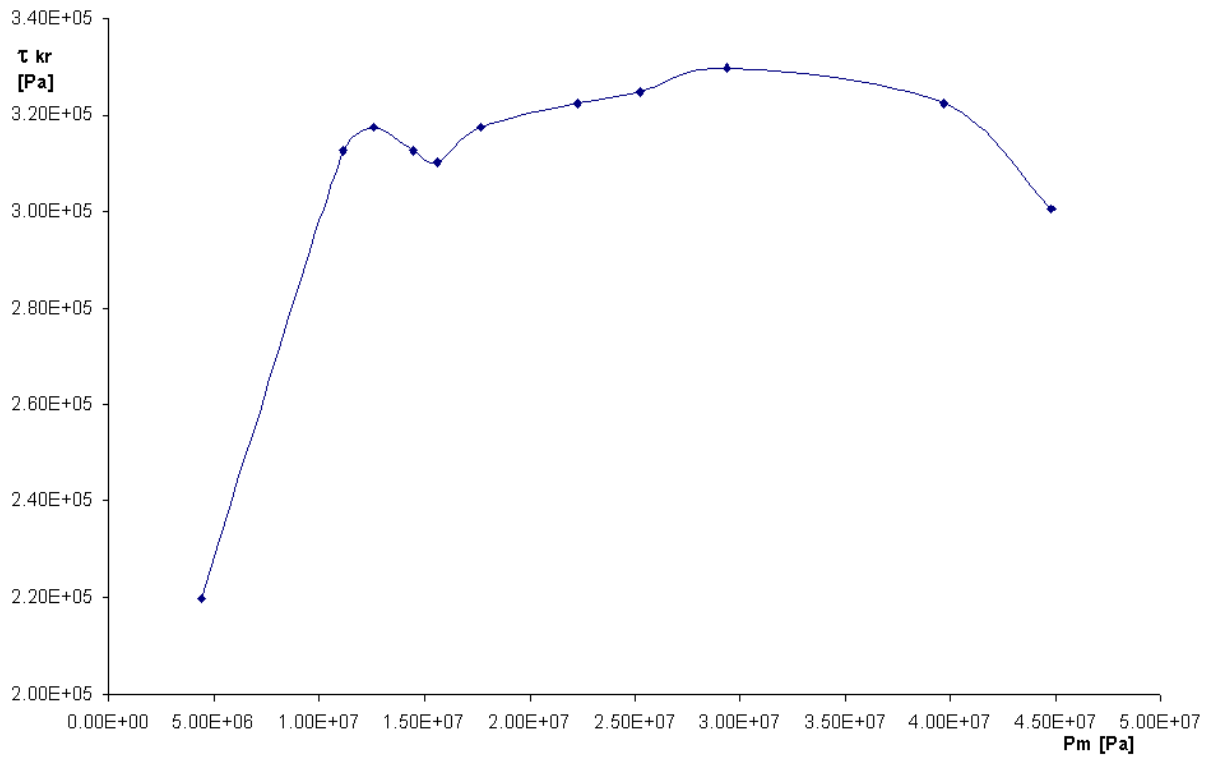

Figure 5: Pressure dependency of the critical shear stress
2. critical shear stress at the beginning of wall slip is moved to higher values (figure 5) with the counter pressure.